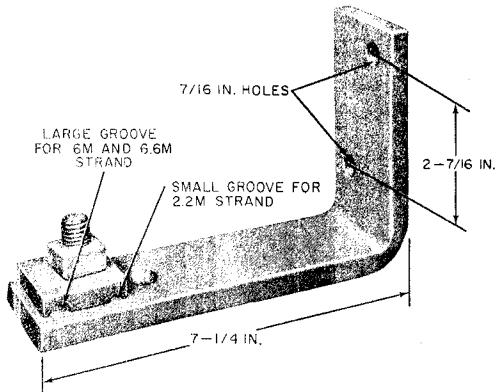

Fig. 9 - L Wall Bracket
3.04 L Wall Bracket (Fig. 9): Used in lieu of S Wall Bracket where more than 2 inches of clearance is required between cable and wall. This bracket will provide a maximum clearance of 5 inches.